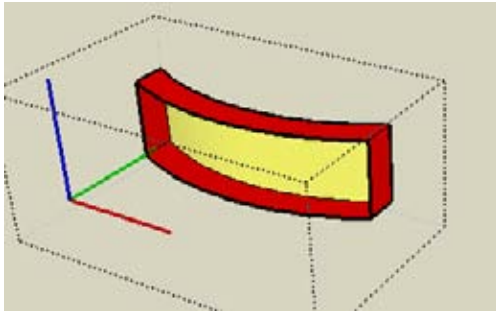

Figure 3-41
10. Open the top window component, and choose Edit→Paste in Place to replace the face in the exact spot from where it was removed. Paint both sides of this face with glass (Figure 3-41).